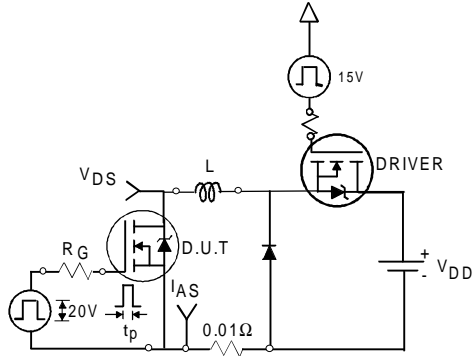

Fig 12a. Unclamped Inductive Test Circuit
3. Equation below based on circuit and waveforms shown in Figures 12a, 12b.
- ⑤ C_{OSS} eff. is a fixed capacitance that gives the same charging time as C_{OSS} while V_{DS} is rising from 0 to 80% V_{DSS} .
- ⑥ Calculated continuous current based on maximum allowable junction temperature. Package limitation current is 75A.
- ⑦ Limited by T_{Jmax} , see Fig.12a, 12b, 15, 16 for typical repetitive avalanche performance.